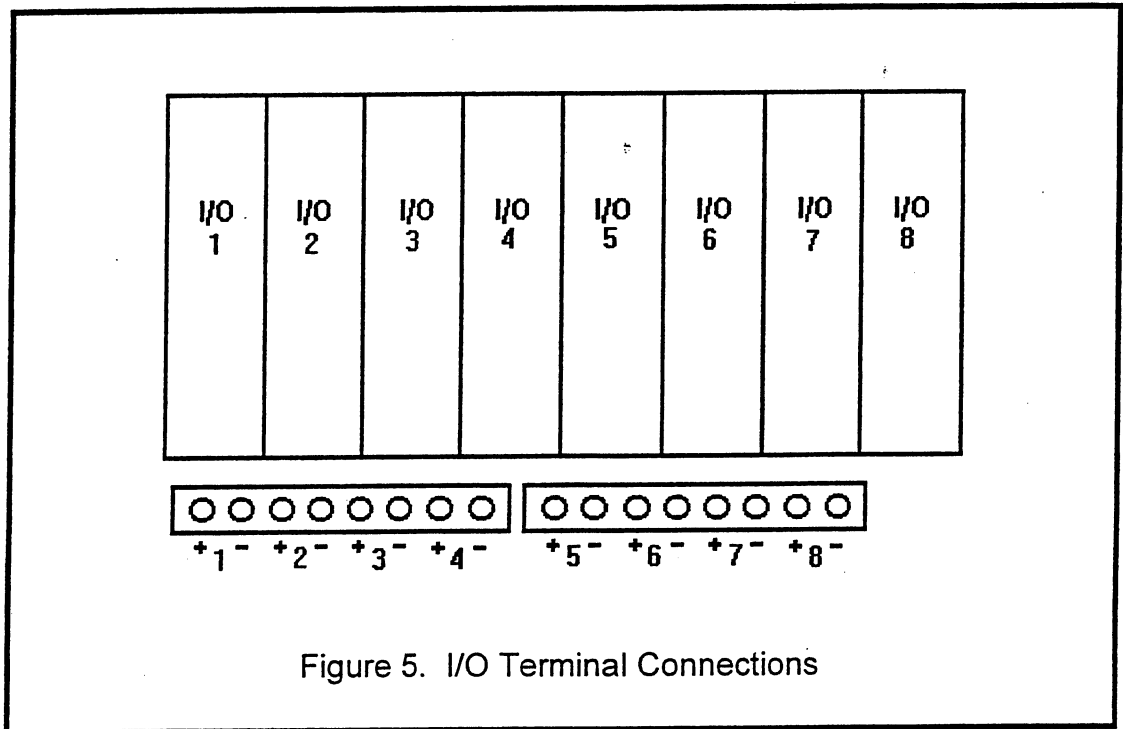

Figure 5. I/O Terminal Connections
3. Connect a local telephone (optional) to the dialer's PHONE jack, as shown in Figure 5 below.
Step Four - Connect External Input/Output to the Dialer Each I/O module has two (2) corresponding I/O terminals. See Figure 5 below. Use 22 AWG shielded twisted pair wire when wiring external sensors to the I/O terminals. Observe polarity when making connections. Whenever possible, ground the shield at the sensor end only. Sensor control wires should never share conduit with AC power wiring.